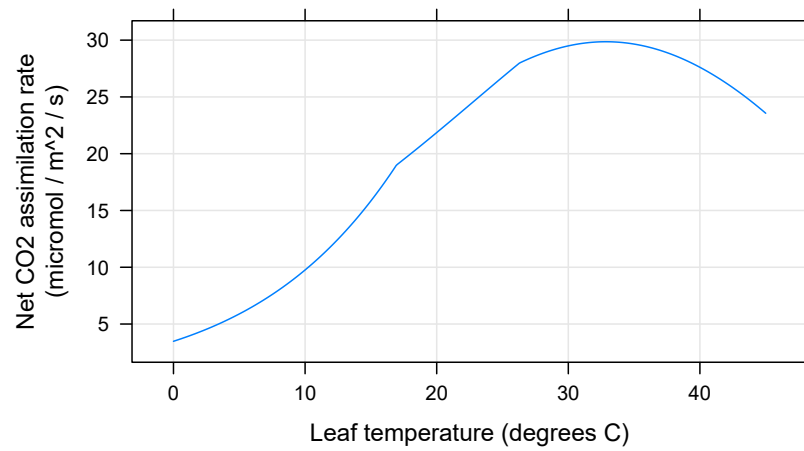

Figure 3: Response of soybean net assimilation to air temperature.
- Calculate a temperature response curve for soybean assimilation, in analogy to the light response curve we calculated in Section 4. (See Figure 3 for a possible solution.)